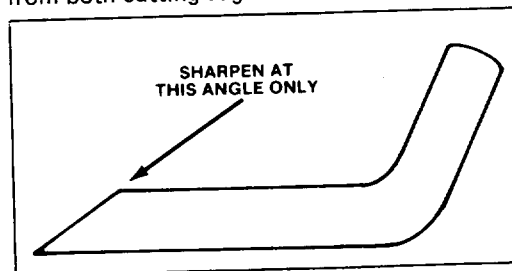

Figure 23
6. **SHARPENING BLADE** – Using a file, sharpen top side of blade and maintain original cutting angle (Fig. 23). The blade will remain balanced if same amount of material is removed from both cutting edges.